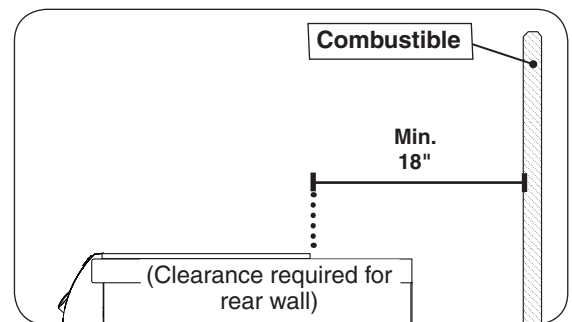

Fig. 11-3 Clearance 'C' Diagram
- The unit must have a minimum clearance of 18" from the combustible rear wall (see Fig. 11-3).